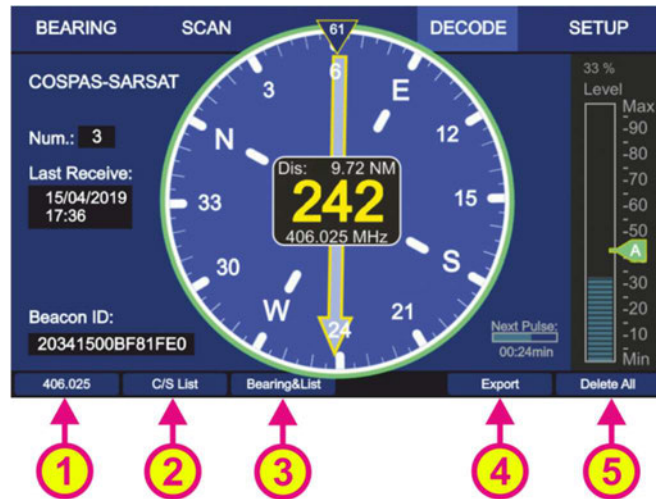

Figure 67. Decode Page: Bearing View.
- Change the active COSPAS-SARSAT frequency by using the hotkey “406.025” (s. Figure 67, position 1).
- Pressing the hotkey “C/S List” (s. Figure 67, position 2) will open to the “COSPAS-SARSAT List” view (s. 7.3.2).
- Pressing the hotkey “Bearing&List” (s. Figure 67, position 3) will change to the “COSPAS-SARSAT Bearing and List” view (s. 7.3.4).
- Like in the “COSPAS-SARSAT List” view, it is possible to delete all stored COSPAS-SARSAT messages by pressing the hotkey “Delete All” (s. Figure 67, position 5). This action must be confirmed.
- Hotkey “Export” exports the GPS coordinates of the currently displayed COSPAS-SARSAT message to the “Bearing” page. (s. Figure 67, position 4). See also chapter 7.3.5 “Export to Bearing Page”
The calculated bearing of an emergency beacon, which is based on the decoded GPS position, can be exported to the “Bearing” page by pressing the hotkey “Export” (s. Figure 67 or Figure 69, position 4). In this case, the RT-500-M is operating on the selected COSPAS-SARSAT frequency in the normal bearing mode.